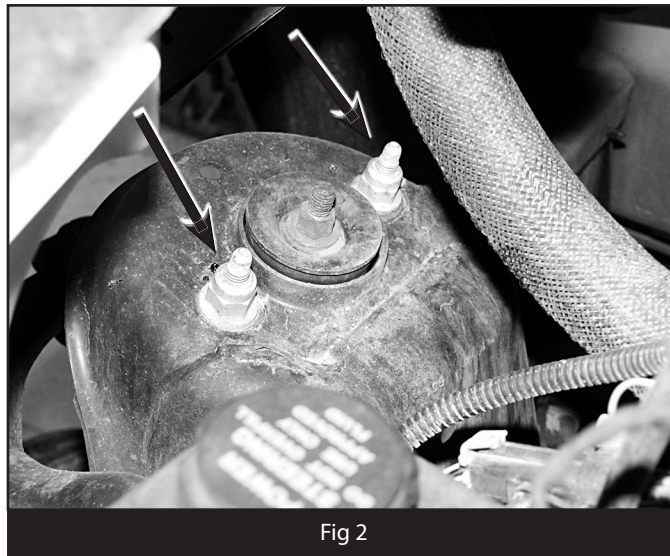

Fig 2
5. Under the hood, locate the driver's and passenger's top strut mounting nuts (Fig. 2). Remove the two nuts that hold each strut to the frame. CAUTION: DO NOT remove the center strut nut. It is under extreme pressure.